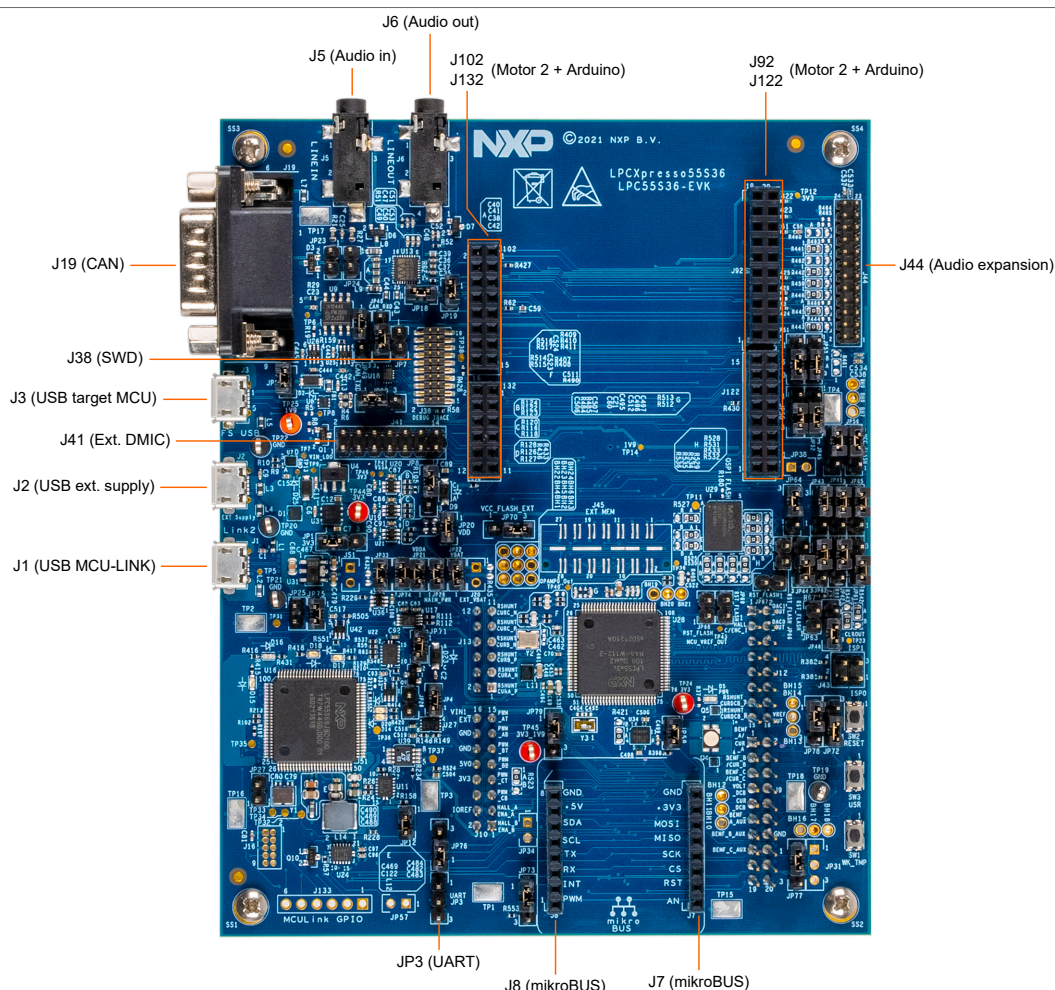

Figure 2. Connectors
- c. Connect FTDI cable to JP3, as shown in Figure 2.
- e. Connect power from J2 to PC through USB cable, as shown in Figure 2.
- e. Connect power and MCU-Link onboard debugger from J1 to PC through USB cable, as shown in Figure 2.